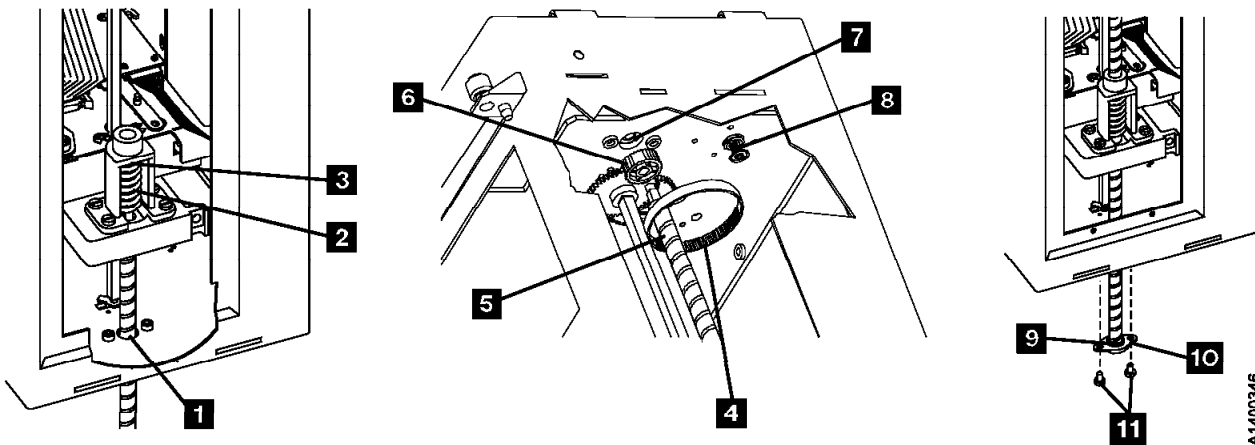

Figure 290. Belt-driven leadscrew, gears, belt, and bearing
4. See Figure 289 on page LOC*CAR-17 (gear-driven leadscrew) or, Figure 290 on page LOC*CAR-18 (belt-driven leadscrew). The D-shaped end of the leadscrew must be up for this step. Insert the leadscrew up through the leadscrew bearing hole **1**.
10. See Figure 290. Install the belt **4** over the leadscrew **5**.